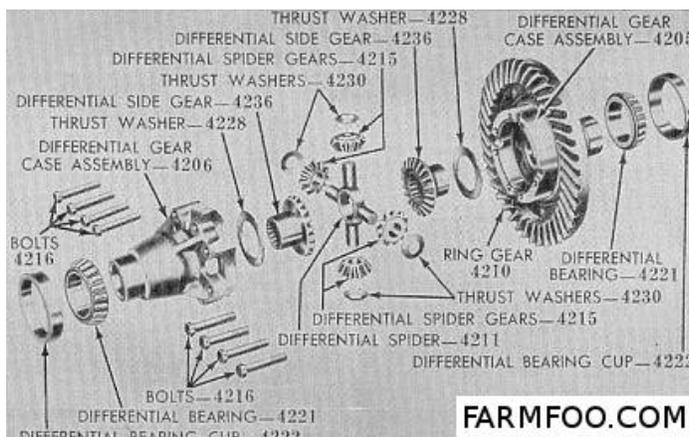

Fig. F065 - Exploded view of differential as used in models 2N-8N-9N. Bearing cups (4222) are mounted in axle housings.
85. **OVERHAUL.** Remove differential assembly as described in paragraph 84. Remove eight differential case bolts and separate the two case halves. See Fig. F065. Remove spider, differential pinions and thrust washers. Check differential bearings and renew if required. If bearing cups are to be renewed, both axle housing must be off the transmission and shafts removed from housings to clear bearing cups for removal. Differential case